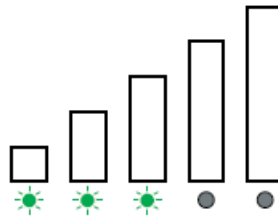

Figure 12
9. After selecting the radio channel, wait for the Signal Strength LEDs to stop sweeping back and forth. 1 to 5 solid green LEDs means a connection has been made and indicates the strength of the signal (Fig.12).